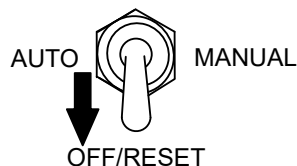

Figure 63. Auto Start/Stop Switch (Off/Reset Position)
5. Place the **Auto Start/Stop switch** (Figure 63) in the **OFF/RESET** position.